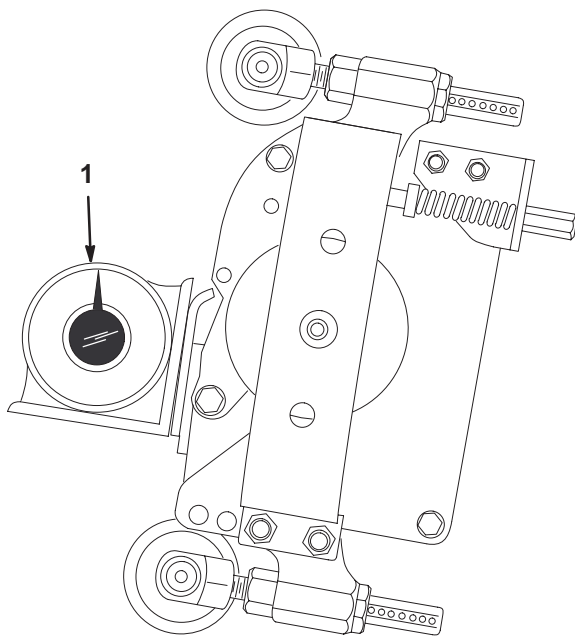

Figure 20
1. Place an angle indicator, Toro Part No. 99-3503, on the bedknife and record the bedknife angle (Fig. 20).